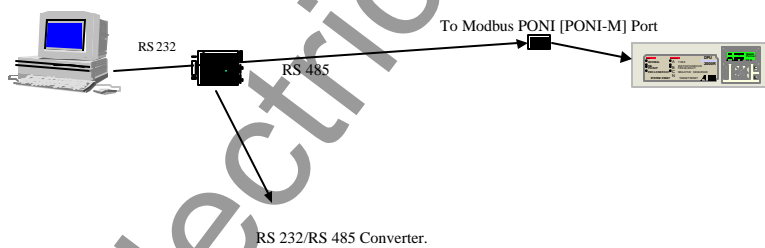

Figure 7 – Point To Point Configuration Architecture
- Install the COMSET program and configure the Modbus PONI-M card port parameters to 9600 Baud, Modbus ASCII Emulation, No Parity, 2 Stop Bits. Type "comset" (without quotation marks) to initiate program execution. Attach the PONI -M card to a computer through an RS 232 to RS 485 converter as per figures 7 and 8. Start COMSET and configure using the parameters specified per the following procedure.